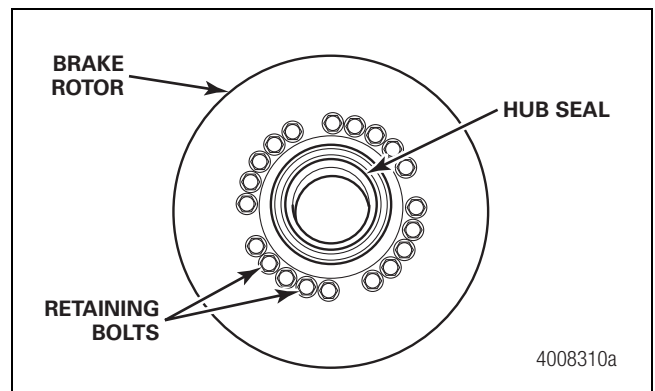

Figure 13.2
7. If equipped, install the rotor onto the hub. Install the rotor mounting bolts and tighten them to the torque specified in Section 20. Figure 13.2.